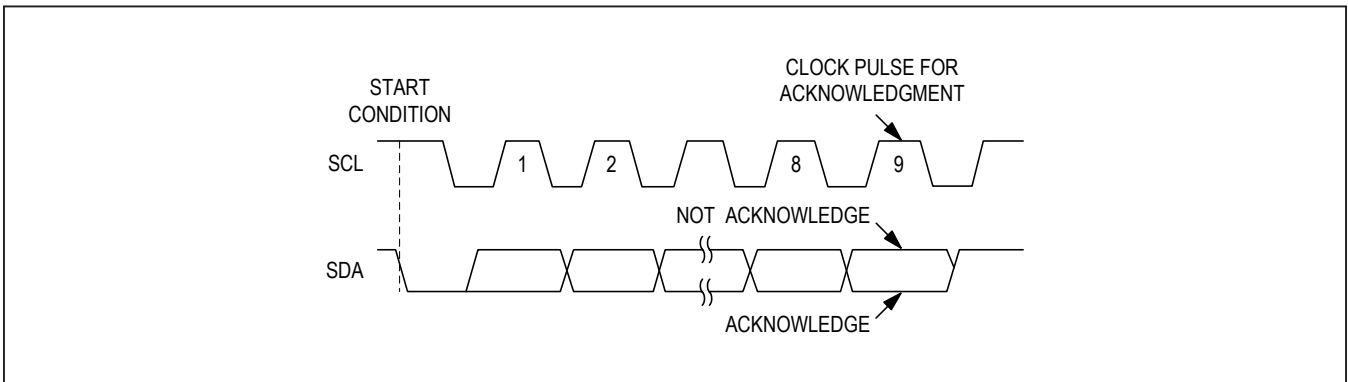

Figure 12. Acknowledge Condition
A master device initiates communication by issuing a START condition. A START condition is a high-to-low transition on SDA with SCL high. A STOP condition is a low-to-high transition on SDA while SCL is high (Figure 12). A START (S) condition from the master signals the beginning of a transmission to the ICs. The master terminates transmission, and frees the bus, by issuing a STOP (P) condition. The bus remains active if a Repeated START (Sr) condition is generated instead of a STOP condition.